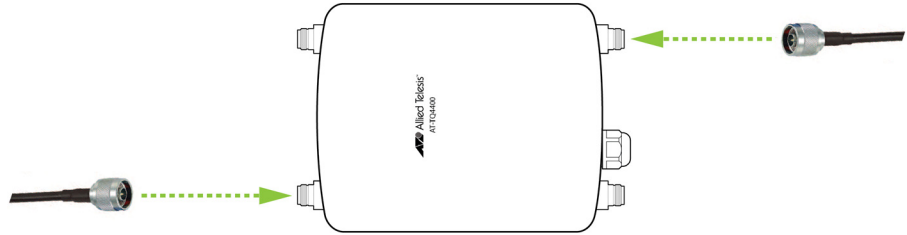
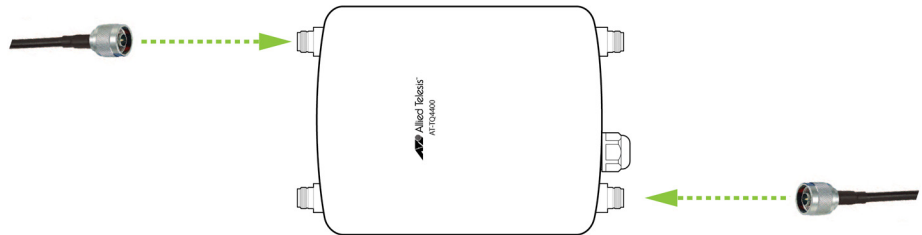

Figure 26. Installing Antennas for 2.4GHz to the Access Point
Figure 27. Installing Antennas for 5GHz to the Access Point
When you use the 2.4GHz band, see Figure 26; when you use the 5Ghz band, see Figure 27.
4. Connect cables to the connectors on the back panel of the antenna as shown in Figure 27 on page 62.